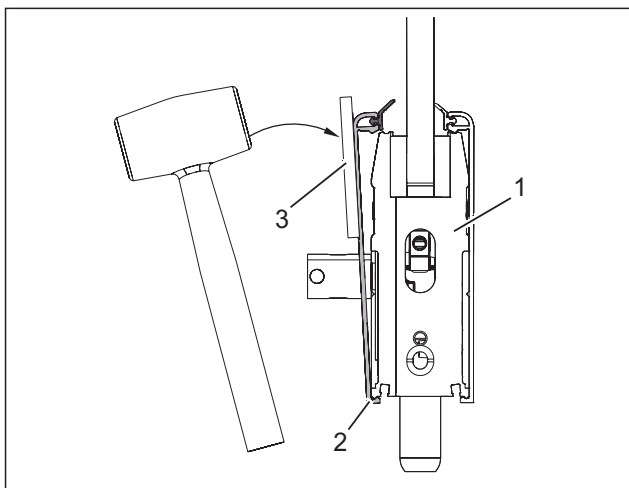

Fig. 31 Snapping on the cover profile
9. Place the cover profile (Fig. 31/2) on the door rail from below (Fig. 31/1) and snap on using a hammer. Do not hit the cover profile (Fig. 31/2) directly with the hammer; rather, use a wood block (Fig. 31/3) to protect the cover surface.